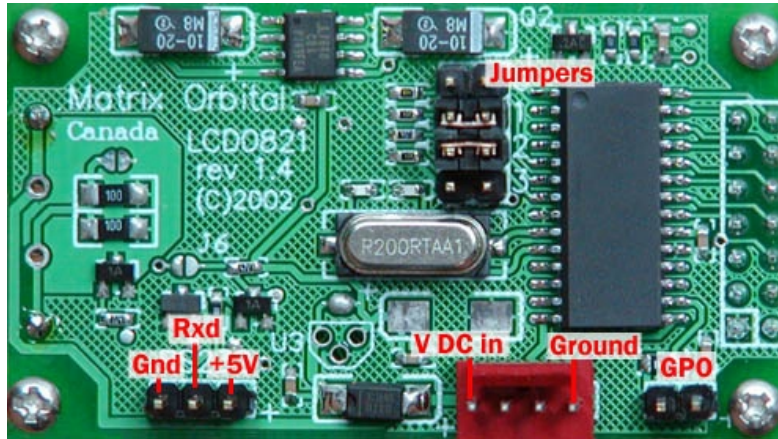

Figure 2-1 Electrical Connections
1. Refer to the diagram above and Figure 2-1 for the following steps.
Power is applied via pins +5V OR Vin as shown in Figure 2-1. Power requirement for standard units is +5 VDC \pm 0.25V (units with the wide voltage range option require 8 – 15 VDC). Power may also be supplied via the RS-232 connector as described in section 2.1.3.